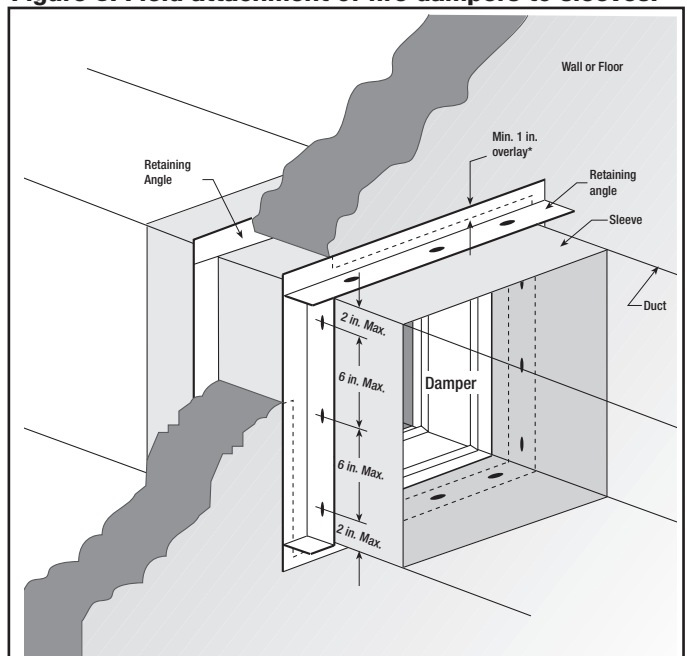

Figure 4: Retaining angle installation.
- Retaining angles for 1½ hour rated dampers with a width and height 48 in. (1219mm) or less must be a minimum of 20 ga. (1mm). Retaining angles for all 3 hour rated dampers and all dampers with a width or height greater than 48 in. (1219mm) must be a minimum of 16 gauge (1.5mm). The leg of the retaining angle on the damper sleeve shall be a minimum of 1¼ in. (32mm). The leg of the retaining angle on the wall/floor shall be long enough to cover the annular space and overlap the wall/floor by a minimum of 1 in. (25mm). (See **Figure 4**). Retaining angle legs may be reversed with leg of retaining angle with annular space of opening so angle and sleeve is flush against barrier.